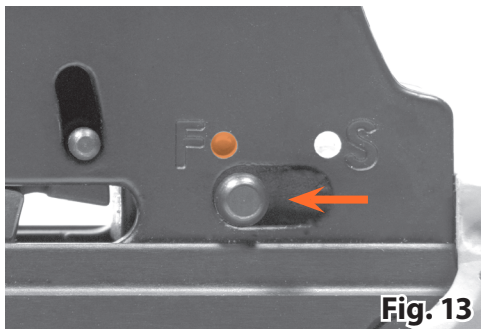

Fig. 13
3. Slide the safety switch from the ON SAFE position to the FIRE position (Fig. 13).